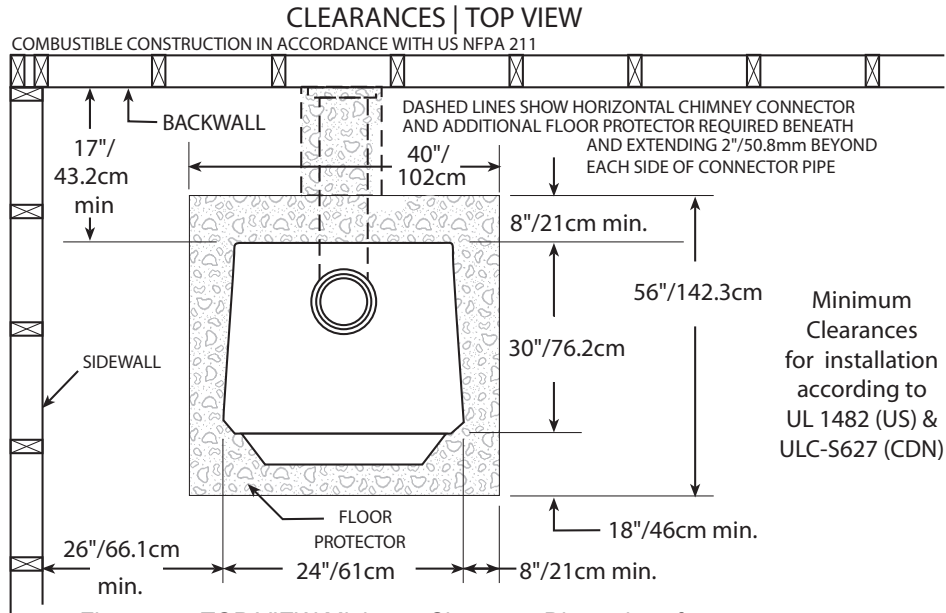

Figure 4 – TOP VIEW Minimum Clearance Dimensions from Combustible Surfaces
1. The stove must be placed on solid concrete, solid masonry, or when installed on a combustible floor, on an Underwriters Laboratories Listed Type 2 floor protector listed to UL standard UL 1618, such as Hy-C or Imperial Model UL4056BK. Floor protector must be 1/2"/13mm minimum thickness (R value = 1.19, K value = 0.84 see page 23 for calculation formulas) non-combustible material or equivalent. The floor protector must extend at least 18"/46cm beyond the front of the access door, 8"/21cm to the sides, 8"/21cm beyond the rear and must extend under and 2"/50mm beyond either side of the stove pipe if it is elbowed towards a wall. (See figures 4 – 6 and consult local building codes and fire protection ordinances.)
4. After observing the clearances to combustible materials (figures 4 – 6), locate your floor protector accordingly (figure 4) and carefully place the stove in your selected location. Install connector pipe, elbows, and thimble as required, utilizing either a recently cleaned and inspected 6"/152mm lined masonry chimney or a 6"/152mm i.d. manufactured chimney system listed to UL 103 HT (US)/ULC-S629 (CDN).
5. Use round 6"/152mm dia., minimum 24 MSG black or 26 MSG blue steel stove pipe to connect the stove to the chimney. Do not use galvanized stove pipe. NOTE: Mobile home installations require double-wall UL 103 HT high-temp connector pipe. Secure connector pipe to the flue collar with three (3) equally spaced sheet metal screws to firmly hold the pipe sections together. **DO NOT CONNECT THIS STOVE TO ANY AIR DISTRIBUTION OR DUCT SYSTEM.**
6. Recheck clearances from the stove, connector stove pipe, and corner clearances using the illustrations in figures 4 – 6 and your local building codes or fire protection ordinances.